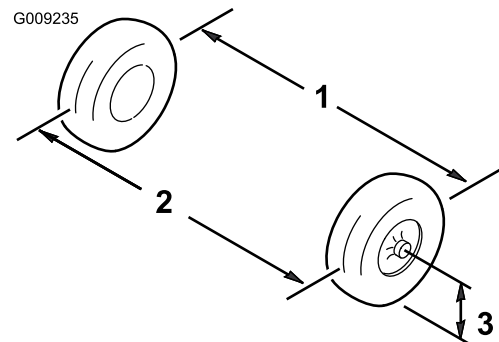

Figure 34
6. Measure the distance between both of the front tires at the axle height at both the front and rear of the front tires (Figure 34).